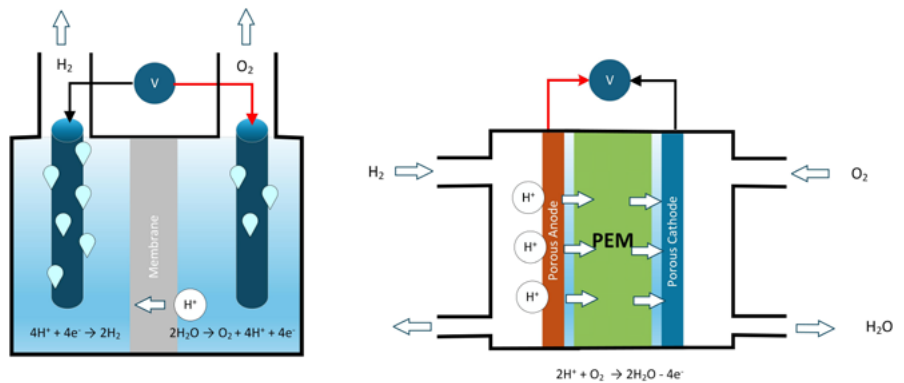

Figure 1: Electrolysis Cell vs Fuel Cell Schematic
*Fuel cells are electrochemical devices that convert the chemical energy from a gaseous fuel, often hydrogen, directly into electrical energy. This process occurs in a reaction chamber, or "cell" (Figure 1). When hydrogen serves as the fuel, the process resembles electrolysis in reverse.*